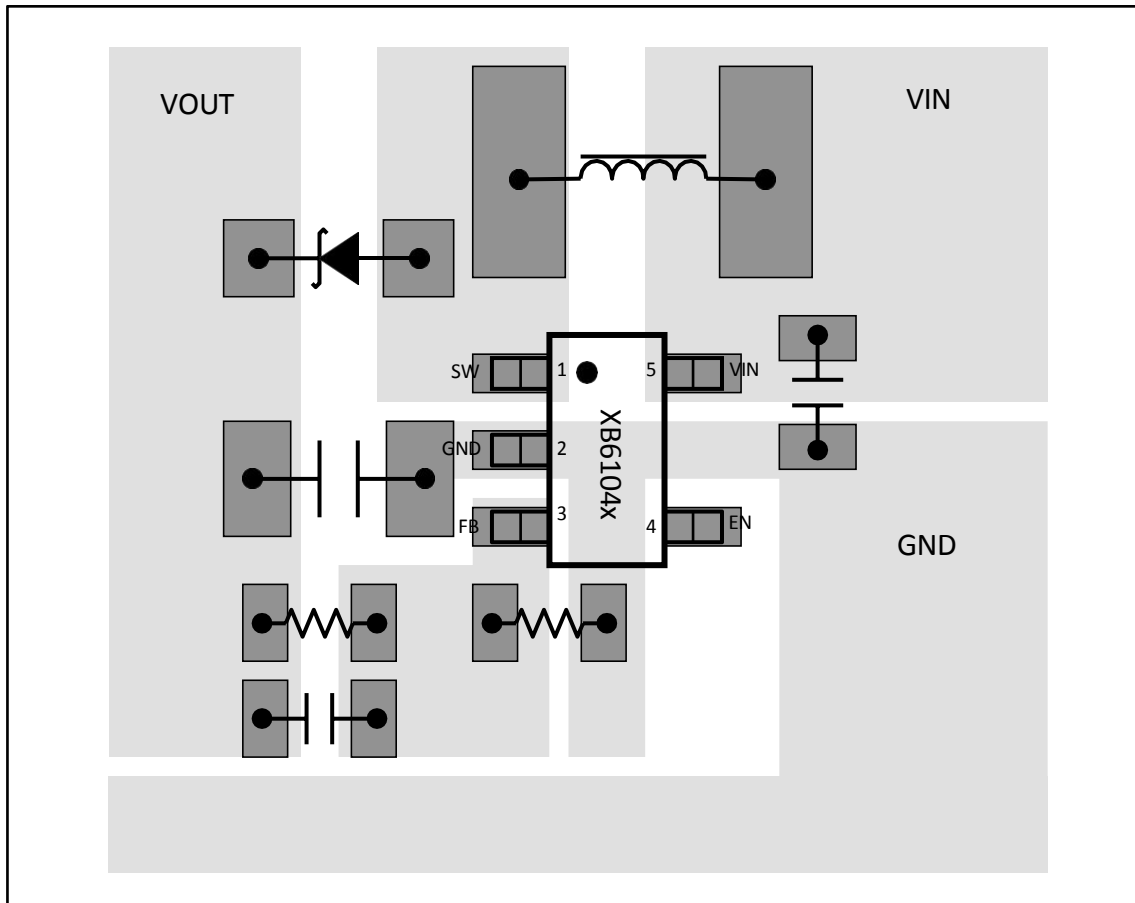

Figure 10-1.Layout
**Table 8-2. Inductors Recommended for Typical LCD Bias Power Supplies (See Figure 10-1)**
**Table 8-4. Recommended Schottky Diodes for Typical LCD Bias Supplies (see Figure 10-1)**
For the bold connections shown in Figure 10-1, wide traces should be used. A star ground connection or ground plane minimises ground drift and noise.